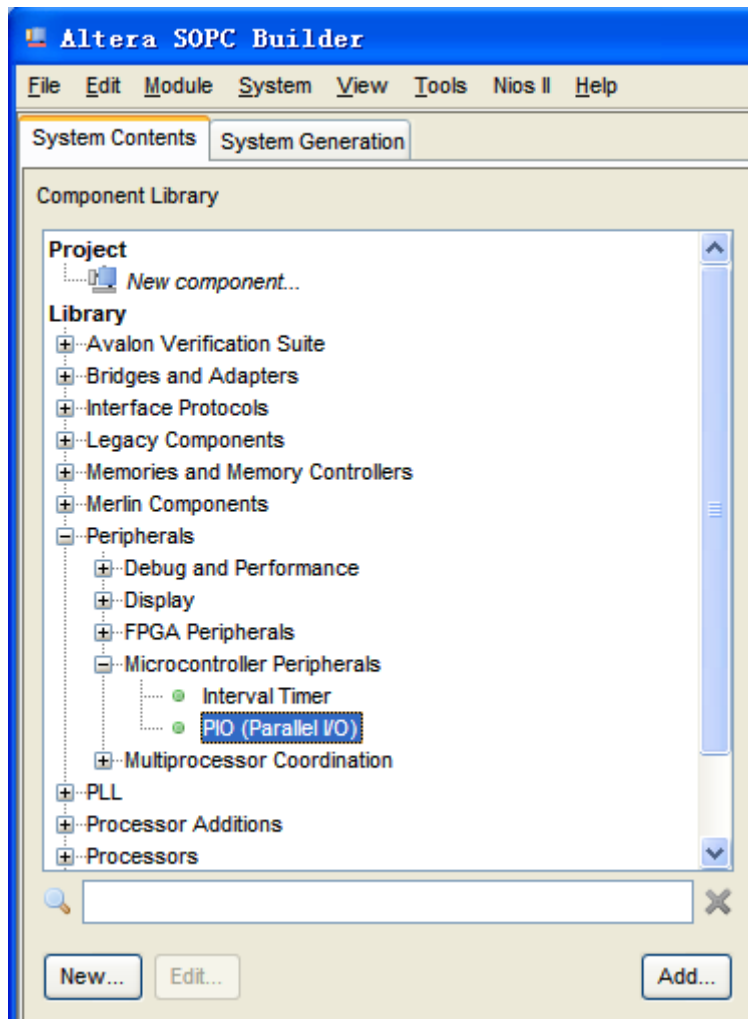
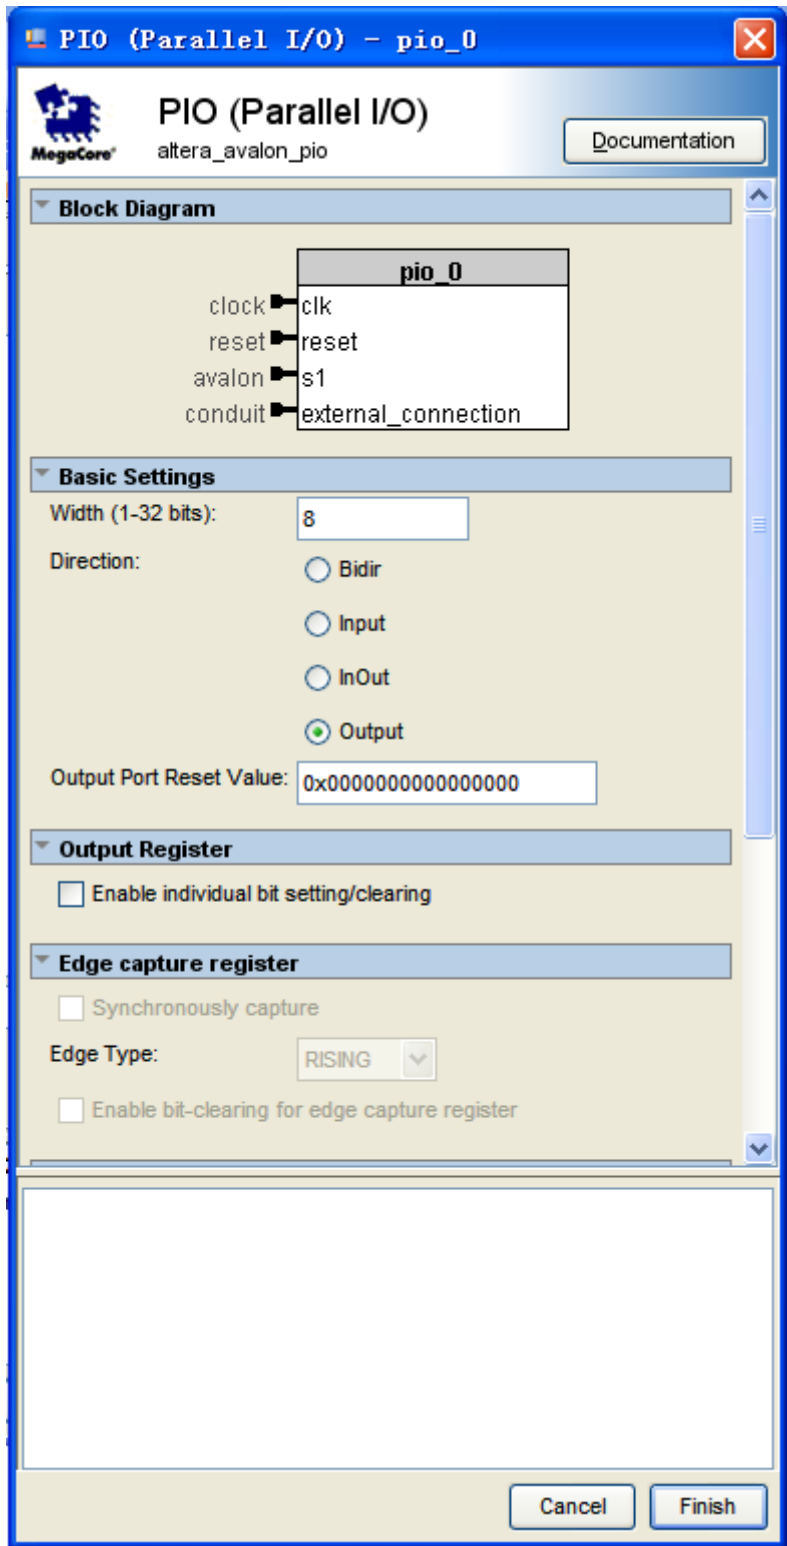

Figure 7-30 Add PIO
Figure 7-31 Add PIO
19. Choose **Library > Peripherals > Microcontroller Peripherals > PIO (Paralle I/O)** to open wizard of adding PIO. See Figure 7-30 and Figure 7-31.